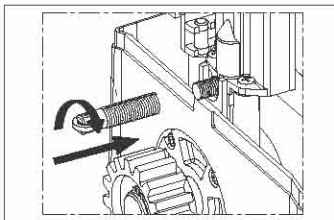
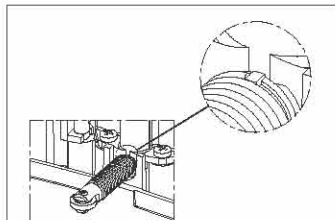

Fig.23
Fig.24
- Fit the spring turning it **clockwise**, Fig. 23, until the stop is reached; see Fig. 24.